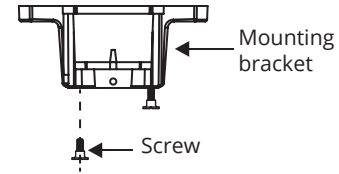

FIGURE 6
2. Remove 1 of 2 screws from the bottom of mounting bracket and save for use in section 8. Loosen the other screw. (Fig. 6)